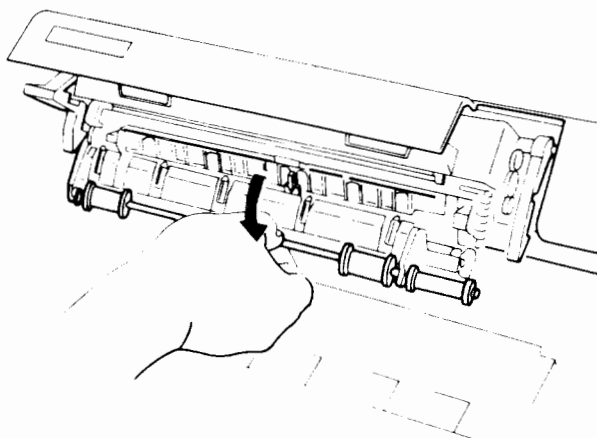

Figure 7-5 Opening the heat roller housing
2. Pull the chrome exit roller shaft towards the front of the printer (see Figure 7-5) until it flips down to expose the green plastic back of the felt pad.